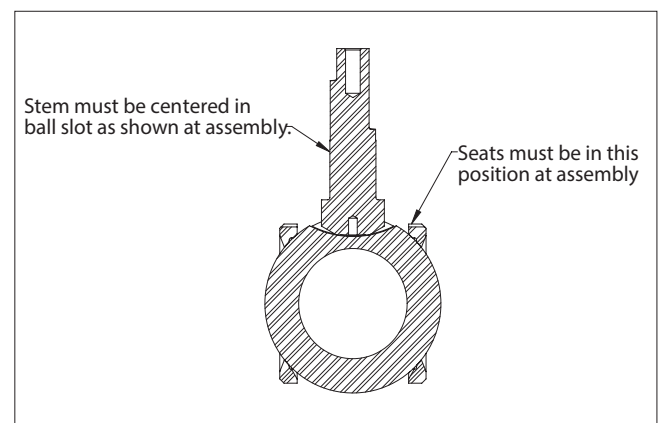
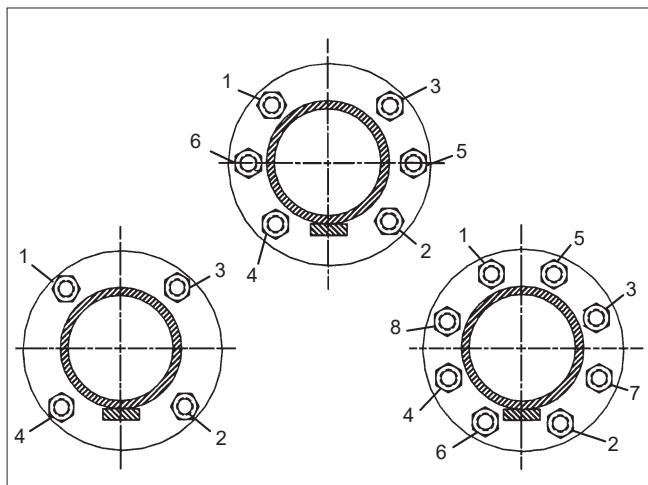

Figure 3. Proper Seat and Ball Orientation
Figure 6. Bolt Tightening Sequence
3. Carefully clean and polish the ball (3) sealing surface. It should be free of all scratches and grooves.
5. Secure body (1) with body joint opening facing up.
6. Slide one valve seat (7) sideways into the body (1) to below the stem bore, and tilt it into place so that the proper surface (see **Figure 3**) will be adjacent to the ball (3), being careful not to cut or scratch the seat.
- Place the valve in a vertical position, body joint up, on a clean soft surface such as a folded rag or piece of cardboard. Insert bottom grounding spring (36) into the hole at the bottom of the stem (5). Insert the ball (3) rotating it onto the stem (5) in the closed position. If necessary, turn the stem blade to align with the ball slot. Make certain that the stem blade is in the middle of the ball slot; i.e. equal distance from the ends of the slot. Rotate the ball if necessary (see **Figure 3**).
- Gently place the body gasket (65) into the machined recess of the body (1).
- Place the remaining seat (7) on top of the ball with the proper surface adjacent to the ball (see **Figure 3**).
- Place the body cap (2) over the body studs (12) being careful to properly orient the body cap and body as originally assembled by matching orientation marks made prior to disassembly. Take care not to damage body gasket (65) or seat (7) during this operation.
- Lubricate the body stud threads and face of the nuts (16) with Never-Seez® or equivalent. Install nuts (16) on body studs (12) and tighten sequentially as shown in the diagram (see **Figure 6**), to the recommended torques as shown in torque chart (**Table 1**).
- Place the indicator stop (32) with "BTM" facing down over the stem so that the longer part is over the body.
- Place the spring (33) over the stem (5) with the larger diameter contacting the indicator stop (32).
- Compress the spring (33) and hold down by putting the retaining ring (34) in the groove in the stem (5).